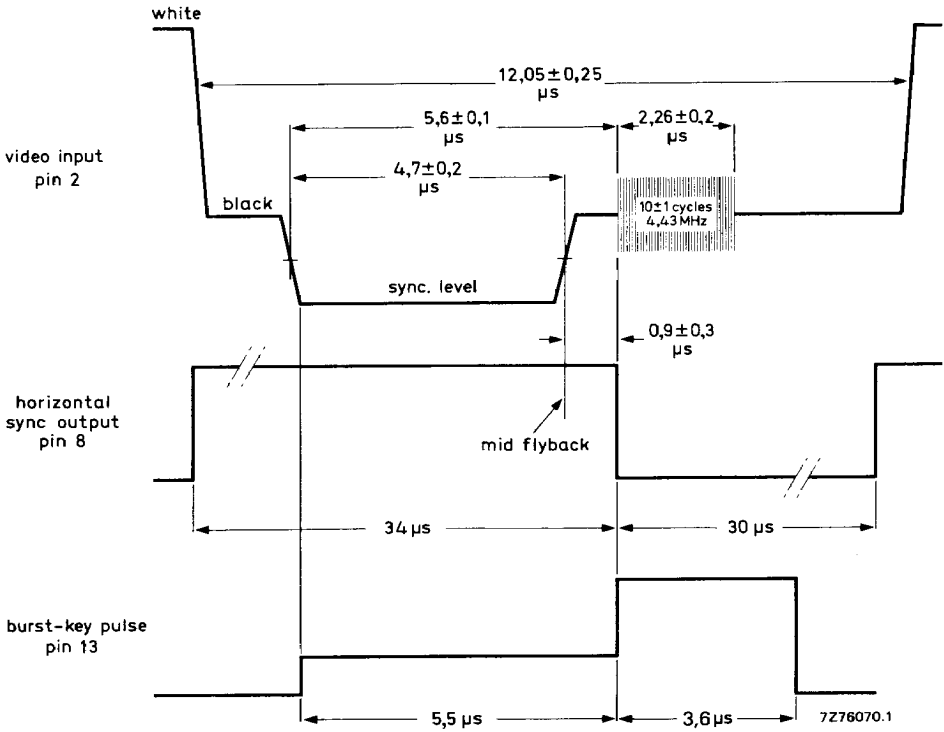

Fig. 2 Relationship between the video input signal to the TDA2571A and the horizontal sync and burst-key pulse output.
** See waveforms Fig. 2.
This pulse is composed of two parts. The lower part has an amplitude of 3 V peak-to-peak and a width of 9,1 μ s (for phase relation see Fig. 2). The upper part has a total amplitude in excess of 10 V peak-to-peak and a width of 3,6 μ s. The leading edge of this pulse has a delay of 0,9 μ s with respect to the falling edge of the sync pulse at the input (pin 2).